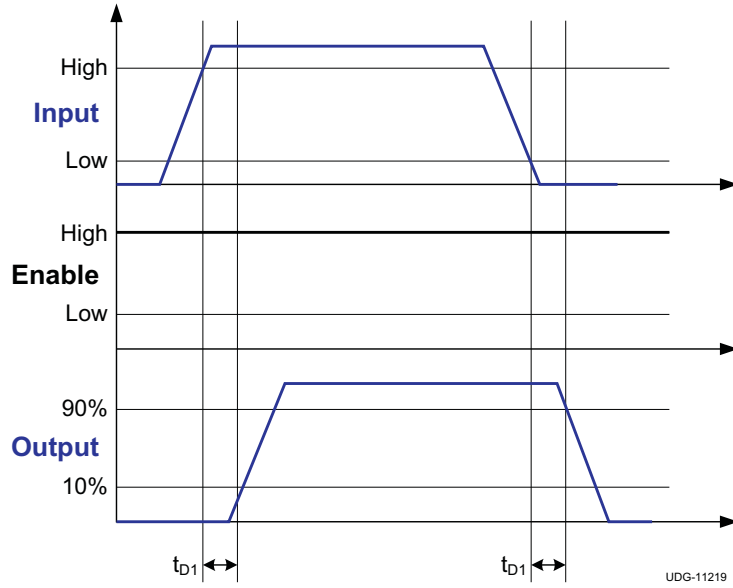
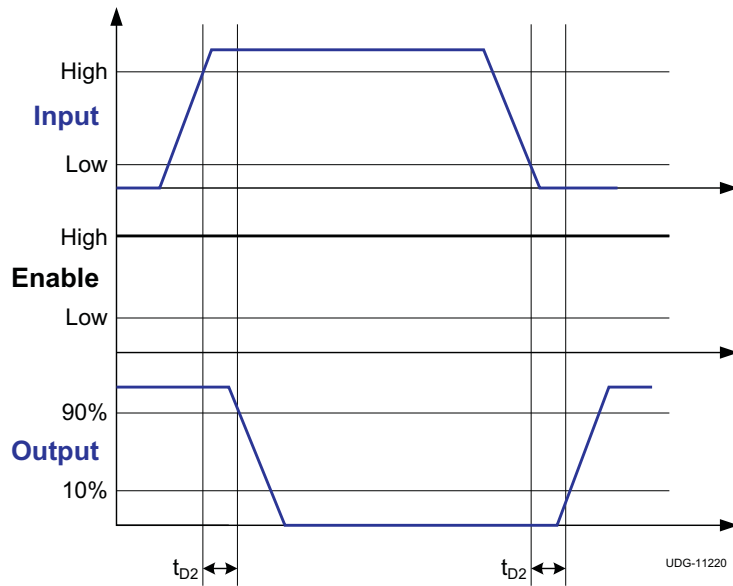
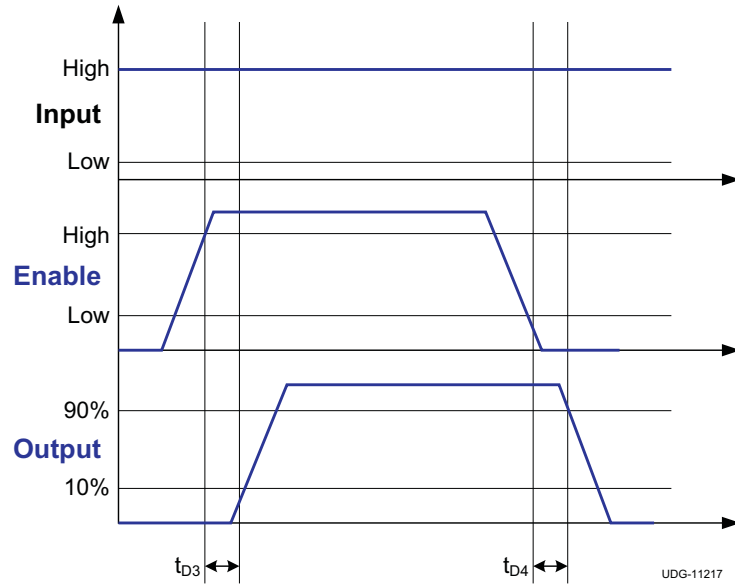

Figure 1. Non-Inverting Configuration (IN+ pin, UCC27519A-Q1)
Figure 2. Inverting Configuration (IN- pin, UCC27518A-Q1)
Figure 3. Enable and Disable Function (non-inverting configuration, UCC27519A-Q1)
(1) Ensured by Design.
(2) ROH represents on-resistance of P-Channel MOSFET in pullup structure of the output stage of the UCC27518A-Q1 and UCC27519A-Q1.
(3) See timing diagrams in Figure 1, Figure 2, Figure 3 and Figure 4.